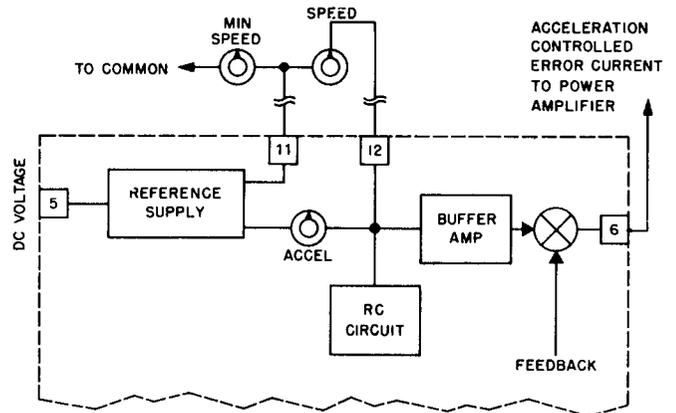

FIGURE 15 ACCELERATION CIRCUIT
**3.3.2 Acceleration Circuit** - The power unit may be modified by substitution of an Armature Feedback with Acceleration module. This module contains a circuit providing controlled acceleration of the drive. (figure 15).